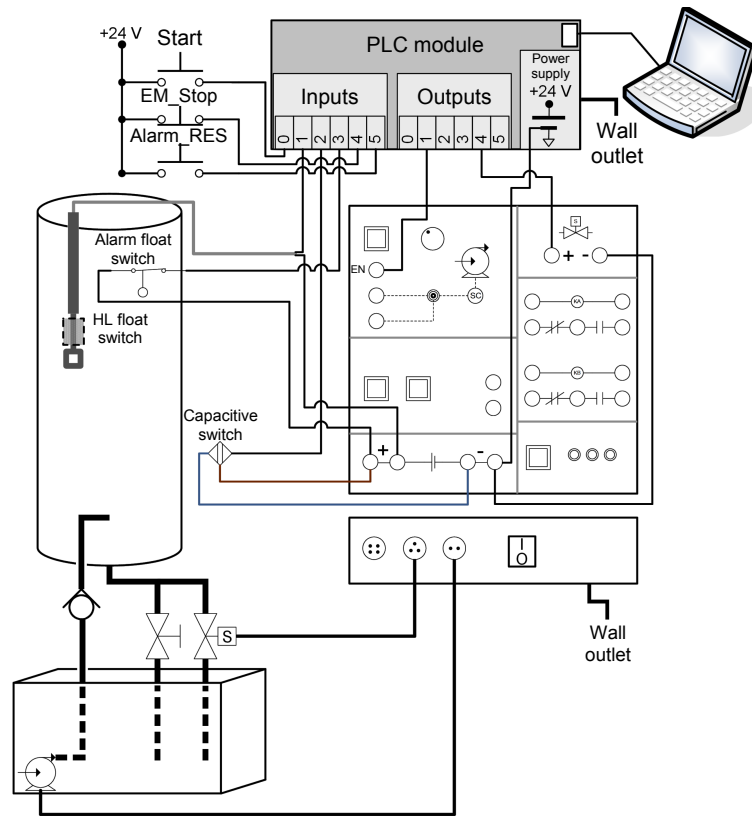

Figure 18. Job Sheet 3 configuration.
1. Connect the Level-Process Training System according to Figure 18. This arrangement will be used in both parts of the procedure section (without and with the alarm).